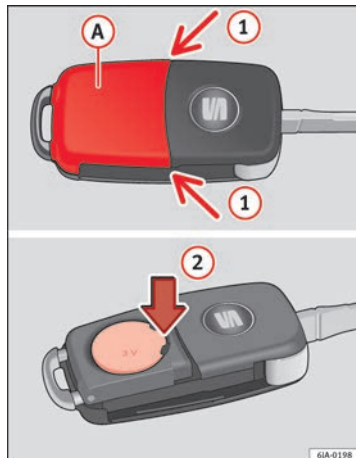

Fig. 37 Remote control key: removing the cover/taking out the battery.
Each remote control key contains a battery that is fitted below the cover **A** » **Fig. 37**. If the battery is flat, the red control lamp » **Fig. 36 B** will not light up when one of the buttons is pressed. We recommend replacing the battery at a SEAT dealer. You can replace the battery yourself as follows. »
- Remove the battery cover by pressing down with your thumb or a flat screwdriver in the location of the arrows ① » Fig. 37.
- Remove the flat battery from the key by pressing downwards in the location of the arrows ②.